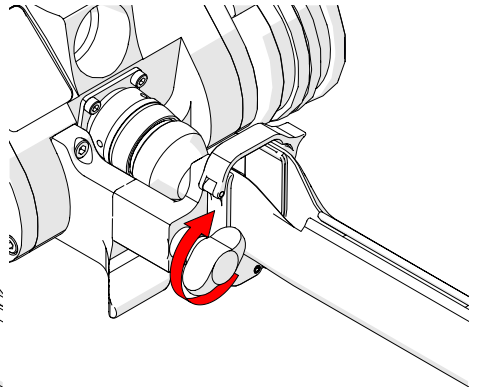

Fig. 162 - Tighten wing knob
2. Tighten the HT cable management clamp wing knob (Fig. 162).